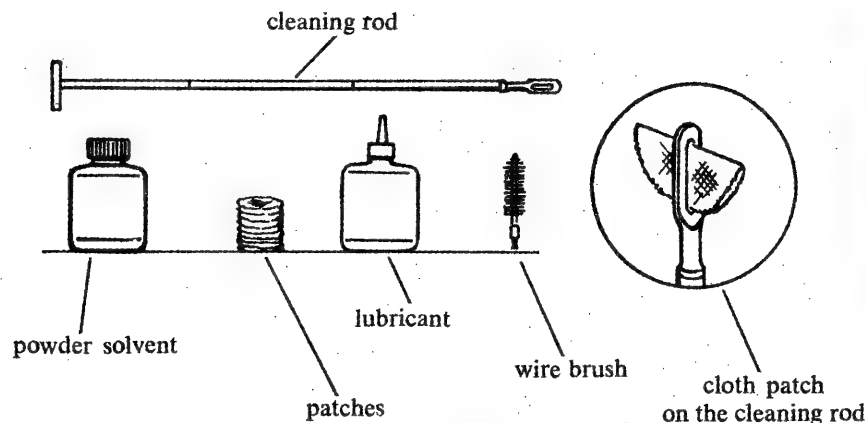

Figure 24. Cleaning Equipment
c. The proper cleaning equipment is shown in Figure 24.